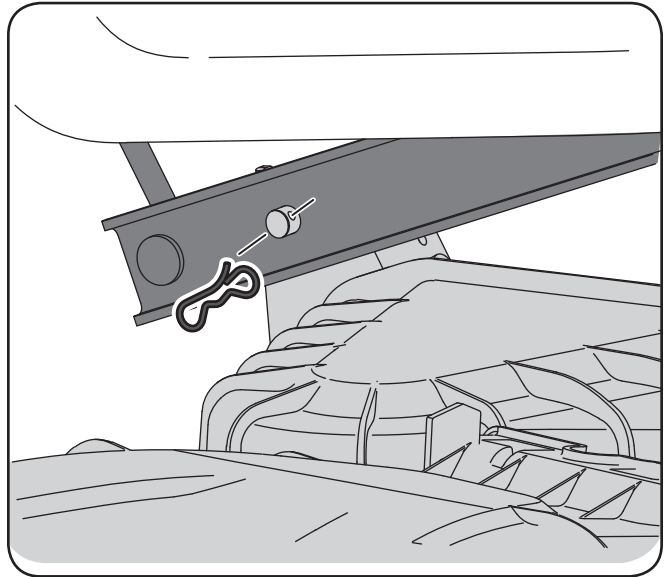

Figure 7-4
11. Looking at the cutting deck from the left side of the tractor, locate the bow-tie pin on the rear left side of the deck. See Figure 7-4.
12. Remove the pin and slide the deck pin out of the deck lift arm. See Figure 7-4.